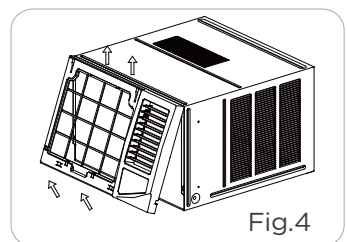

Fig.4
2. Hold the left bottom side of the frame, lift it up to unlatch the lower side, remove it toward you(See Fig. 4)